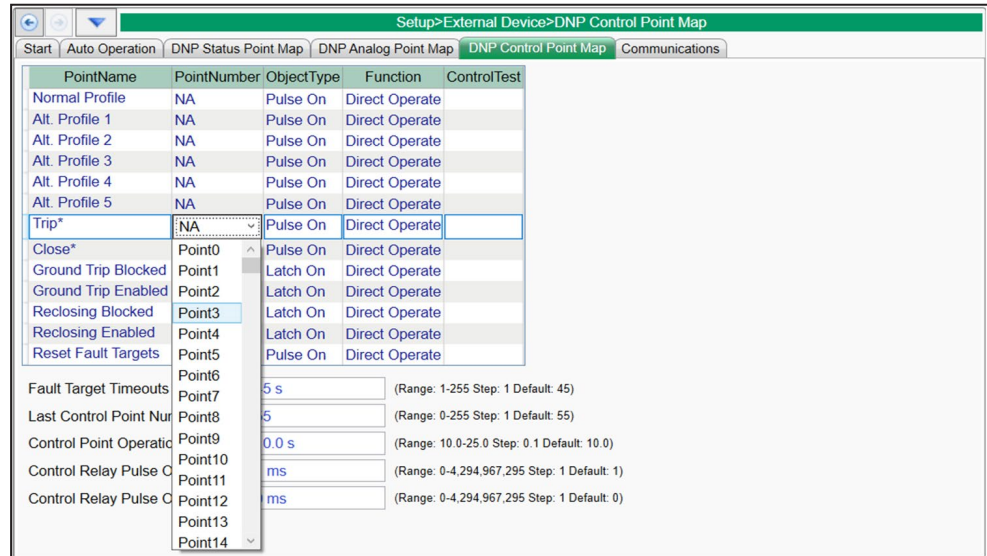

Figure 5. Mapping the Transfer Trip command to the external device.
STEP 4. When configuring an IntelliNode/Info-Only module, the external device must be configured to receive the **Transfer Trip** command. Go to the *Setup>External Device>DNP Control Point Map* screen and configure the **Trip** DNP control point. See Figure 5.